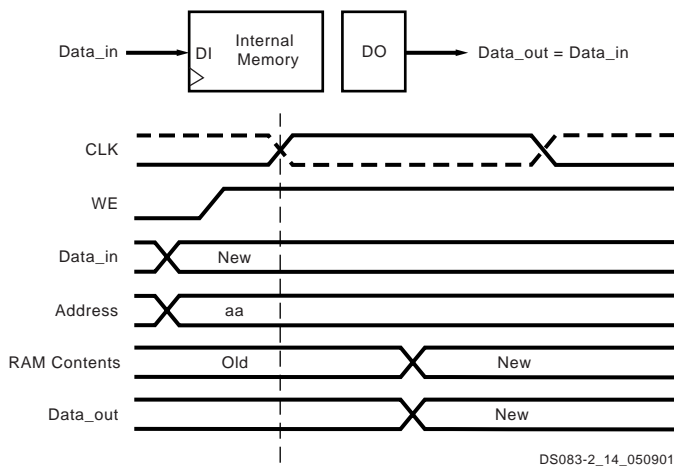

Figure 51: WRITE_FIRST Mode
The WRITE_FIRST option is a transparent mode. The same clock edge that writes the data input (DI) into the memory also transfers DI into the output registers DO, as shown in **Figure 51**.